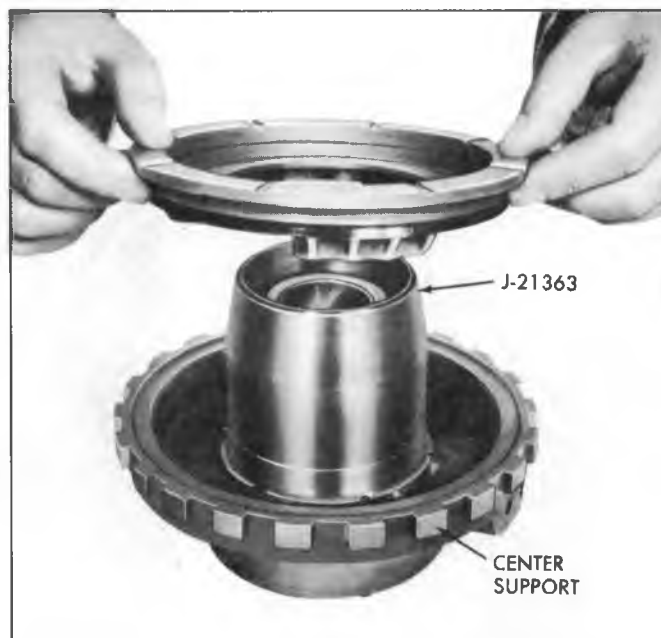

Fig. 102T—Installing Intermediate Clutch Piston
2. Install inner seal protector, Tool J-21363, on center support hub, install piston, indexing spring pockets of piston into cored areas of the center support (fig. 102T).
3. Install three (3) release springs into counterbores of piston. Space equally during assembly.